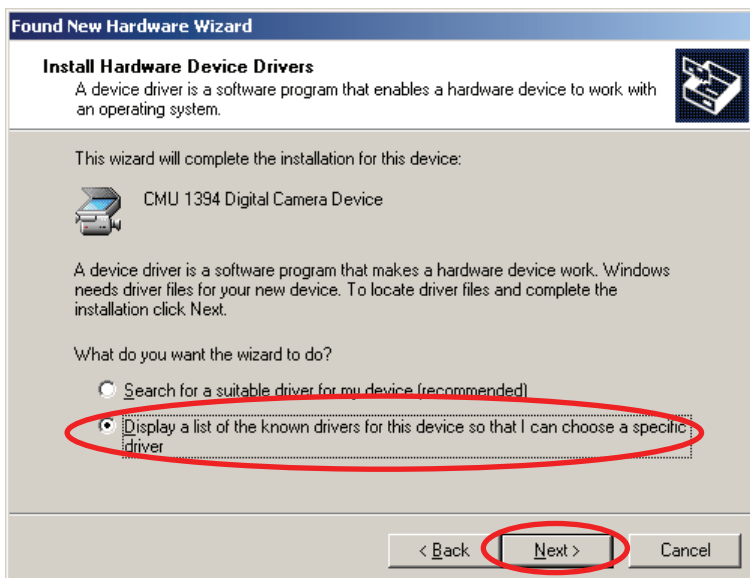

Fig. 2.6: Windows 2000 driver installation - step 2
- ➡ Click on "Next" to confirm this dialog (see Fig. 2.6).